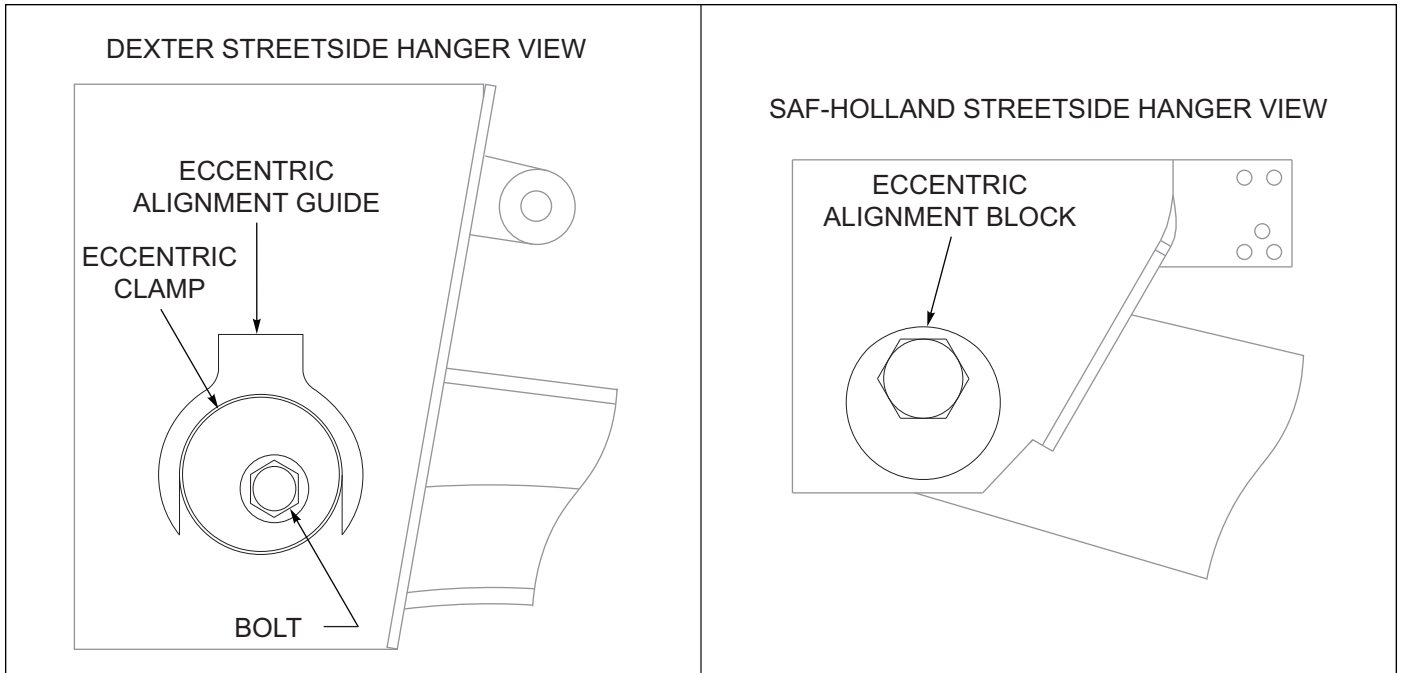

Figure 4-10: Streetside Suspension Hangers
- a. 1-1/8 in Pivot Bolts - Loosen pivot bolt lock nuts and rotate eccentric pivot bolts clockwise or counter-clockwise to adjust. Repeat Steps 5-6 until measurement is achieved, *See Figure 4-10*.
- b. 7/8 in Pivot Bolts - Break welds if present between hanger mounts/eccentric collars and pivot lock nuts/jam nuts. Loosen jam nuts if installed. Loosen lock nuts. Rotate eccentric pivot bolts clockwise or counter-clockwise to adjust. Repeat Steps 5 through 6 until measurement is achieved, *See Figure 4-10*.
- a. 1-1/8 in Pivot Bolts - Loosen pivot bolt lock nuts and rotate eccentric pivot bolts clockwise or counterclockwise to adjust. Repeat Steps 5 through 6 until measurement is achieved, *See Figure 4-10*.
- b. 7/8 in Pivot Bolts - Break welds if present between hanger mounts/eccentric collars and pivot lock nuts/jam nuts. Loosen jam nuts if installed. Loosen lock nuts. Rotate eccentric pivot bolts clockwise or counterclockwise to adjust. Repeat Steps 5 through 6 until measurement is achieved, *See Figure 4-10*.